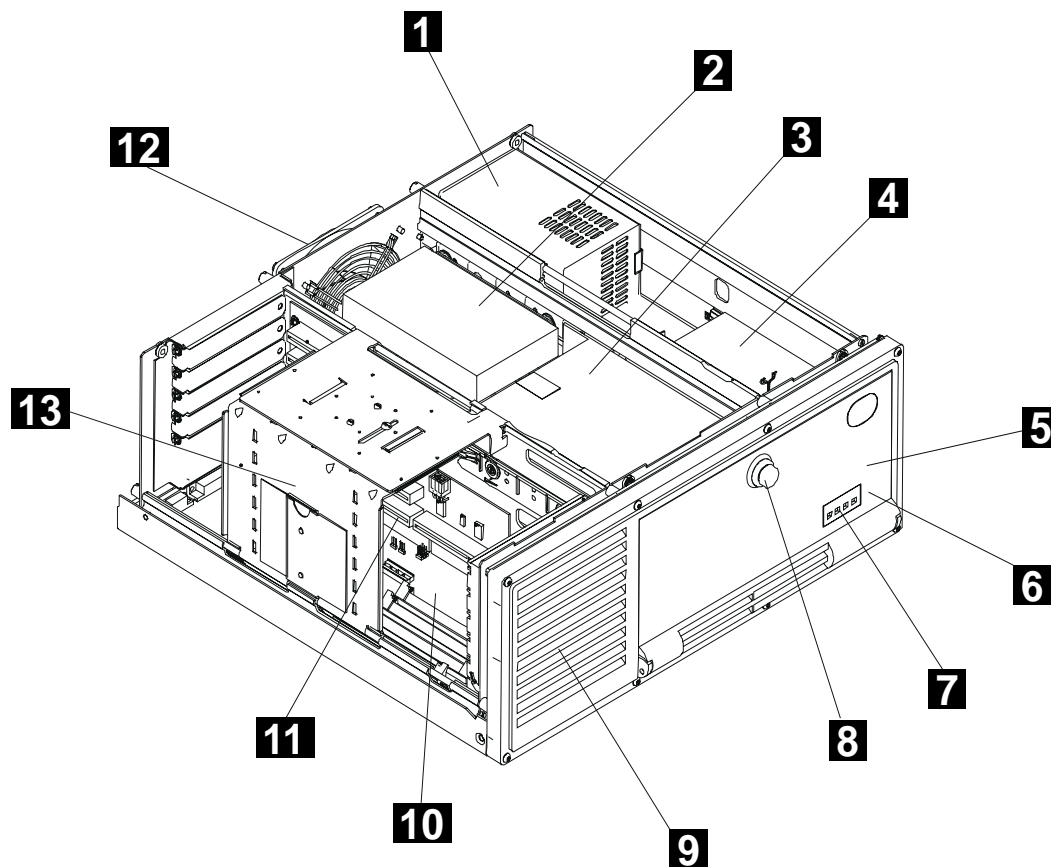
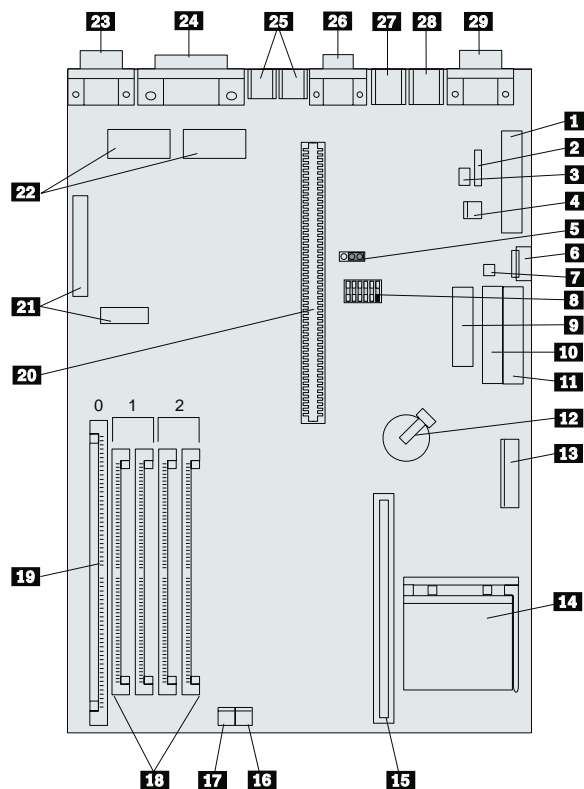
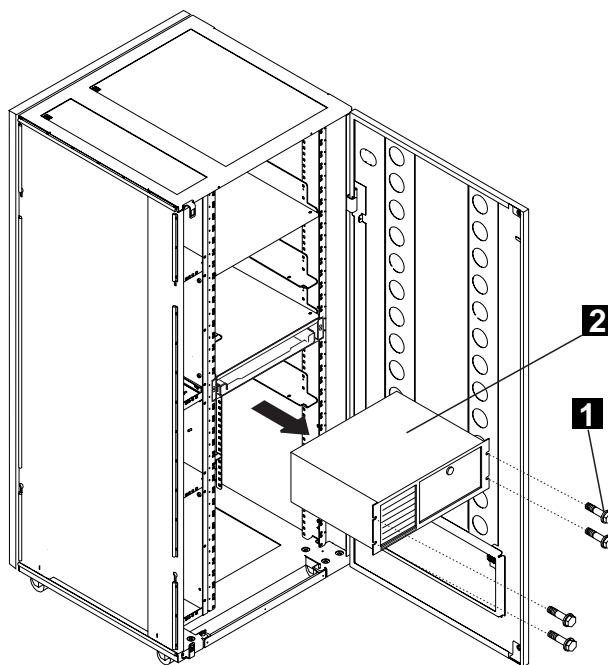

Figure 5. General Component Layout
Figure 6. System Board Component Locations
Figure 7. Removing the NNP Unit from the Controller Expansion (Front Side)
Figure 5 shows the Network Node Processor system unit with the covers removed. This figure illustrates the general layout of the system unit. This general layout is the same for all configurations, even though component units (input/output, storage, and so forth) may be changed or added. Figure 6 on page 8 shows the locations of components and connectors on the current system board. Note that the locations of system board components could change with different system boards.
- (Refer to Figure 5 on page 6).
- ___ 5. Switch the power **OFF (O)**.
- (Refer to Figure 7 on page 10).
Open the adapter card retainer (See item **13** in Figure 5 on page 6):
- ___ 4. Locate the SIMM connectors at the left-front corner of Network Node Processor system board. See item **18** in Figure 6 on page 8 for their exact location.